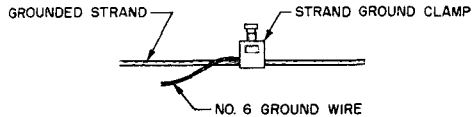

Fig. 3 — Ground Attachment to 25M Strand
*Note:* If cable lashing clamps are not available, use a strand ground clamp as shown in Fig. 3.
(b) For attachment to 25M strand, use a strand ground clamp as shown in Fig. 3.